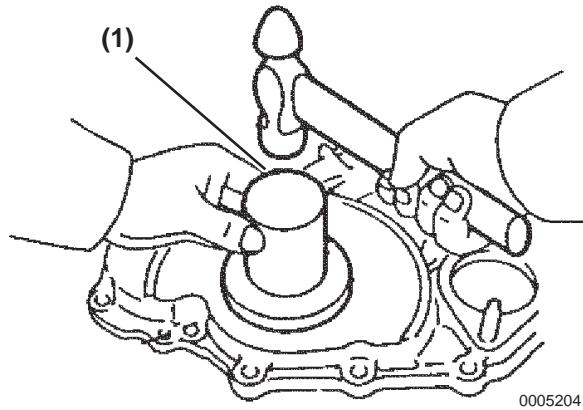

Figure 5-204
2. Tap in a new oil seal to install using special tool P/N 119770-01100 (**Figure 5-204**, (1)), until the surface is level with that of the timing gear cover.